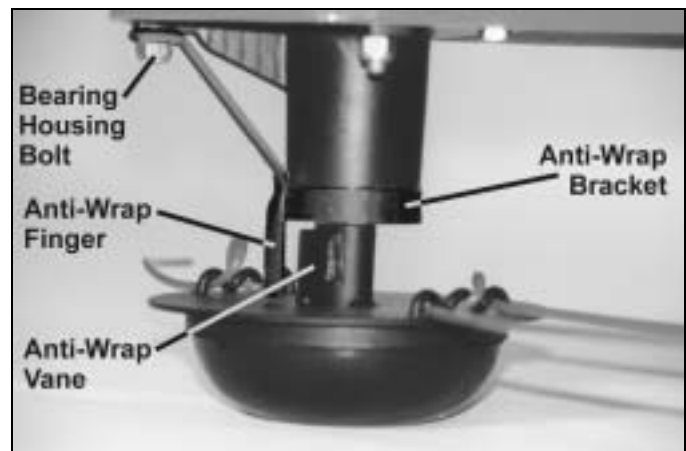

Figure 23
The Wagner Anti-Wrap Device was designed to reduce the amount of grass wrapping around the bearing housing shaft. It consists of the trimmer head plate, which has a vane welded to the shaft, and a bracket that fits around the shaft (Figure 23).
2. Remove the front bearing housing bolt which mounts the upper part of the bracket to the frame (Figure 23).